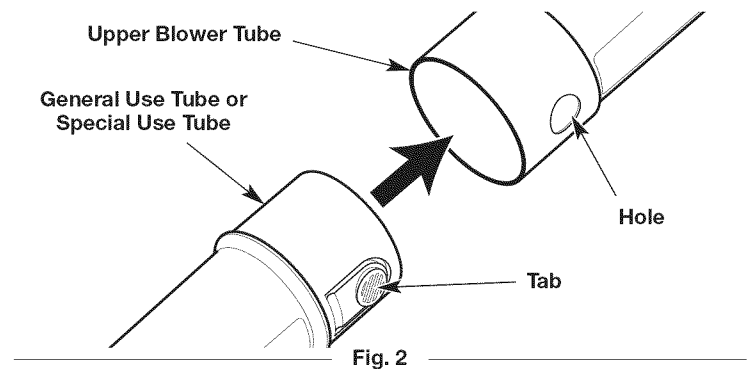

Fig. 2
2. Align the tab on the general use tube or special use tube with the hole on the upper blower tube (Fig. 2).
3. Push the general use tube or special use tube into the upper blower tube until the tab locks securely into the hole (Fig. 2).
2. Firmly press the tab on the general use tube or special use tube inward and pull the general use tube or special use tube out of the upper blower tube (Fig. 2).